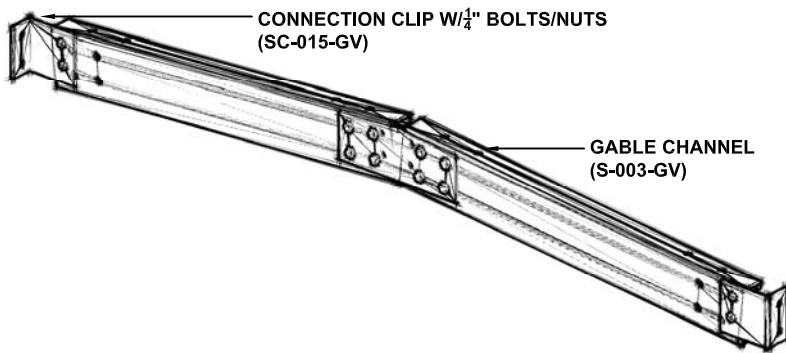

FIGURE 10 - CENTER GABLE CHANNELS
- a. **Gable Channels** - Attach (4) center gable channels(S-004-GV) as shown in **Figure 10**. Attach to Horizontal Channels using (2) Connection Clips (SC-015-GV) and $\frac{1}{4}$ " bolt/nuts. **Note holes for purlin attachment must be on top of Gable Channels.**